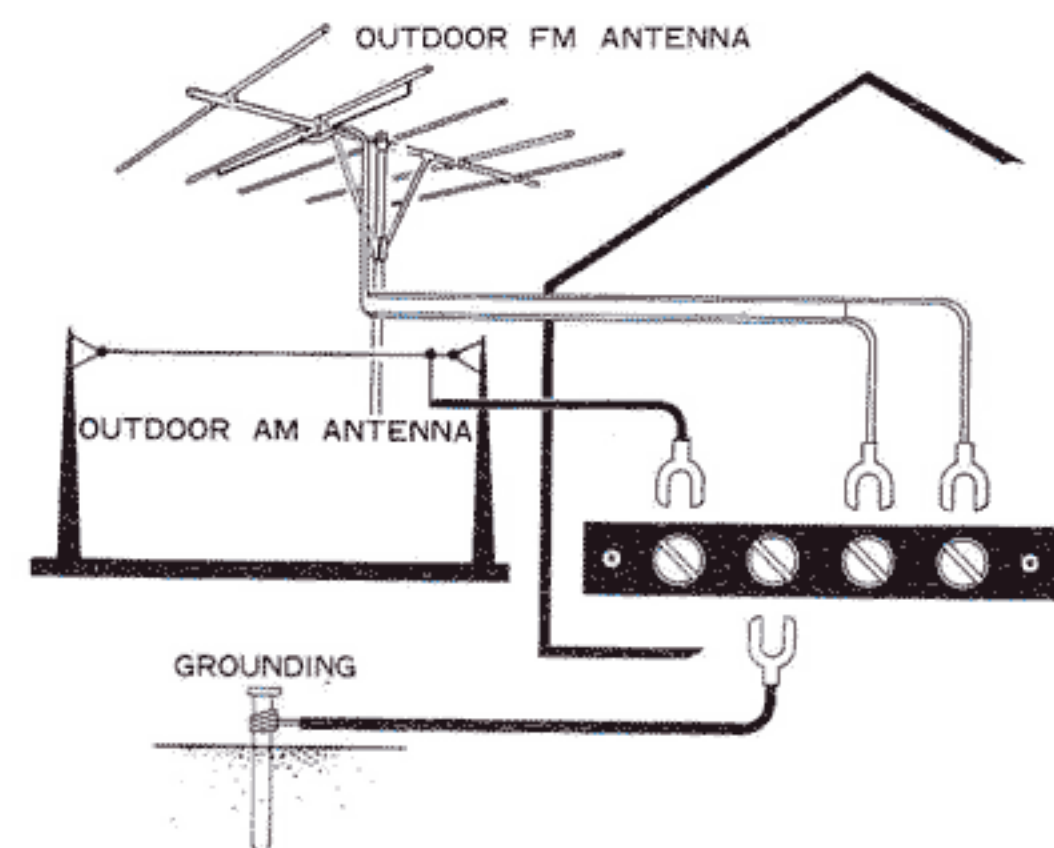

Fig. 8
- * When using the receiver far from the broadcasting station, behind a mountain or within a ferroconcrete building, install an FM radio antenna (or FM/TV common antenna) outdoor and connect it to the FM antenna terminals (25). The FM antenna is various in type, having 3 to 7 elements. Select the most suitable antenna by consulting a nearby radio antenna sales store. (Fig. 8)
- * If good reception cannot be attained even when the accessory lead wire antenna is used, install an AM antenna outdoors. Connect the lead-in wire of the outdoor antenna to the AM ANTENNA TERMINAL (23). (Fig. 8)